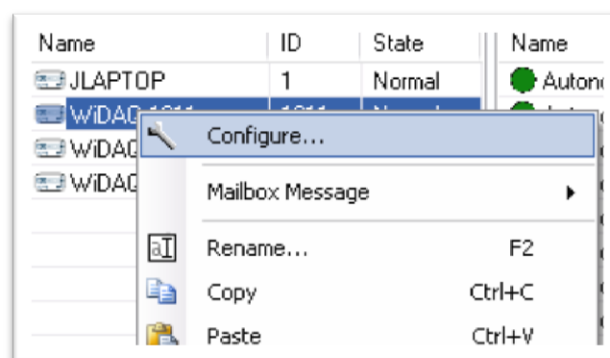

Figure 6-3 - Configure node menu
3. Right-click on the desired node and click *Configure...* (see FIGURE 6-3)